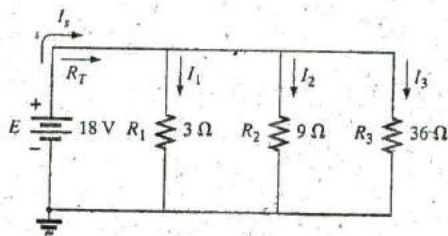

FIG. 6.80
10. For the network of Fig. 6.80: